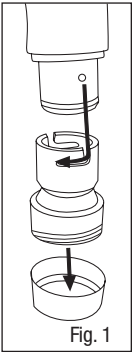

Fig. 1
– To connect a BT series breathing tube to the V-199, position the breathing tube such that the two locking studs are aligned with the openings of the two L-shaped slots on the adapter outlet. Press in straight and twist so that the locking studs are engaged at the end of the L-shaped slots (Fig. 1).